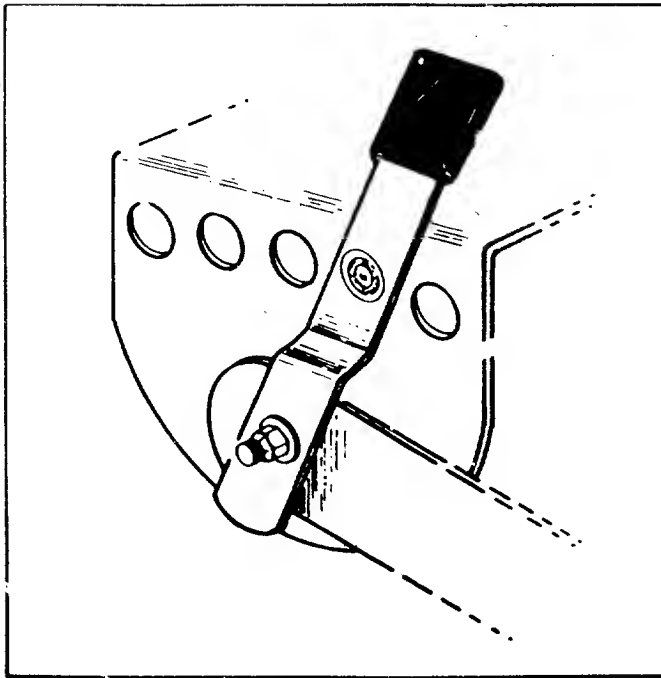

FIGURE 12. WHEEL HEIGHT ADJUSTER
**Wheel Height Adjuster.** See figure 12. Move the lever towards the wheel and set it in the desired cutting height.
To set the cutting deck in the full float position, set the wheel height adjusters in the desired cutting height as indicated in figure 12. Set height of cut stop in the 1½ position. See figure 11.